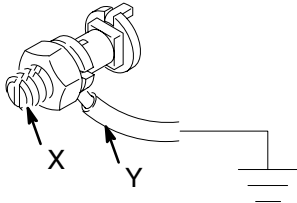

Fig. 1
Agitator and drum cover: Connect one end of the ground wire (Y) to the ground connector (X) on the rim of the drum cover. See Fig. 1. Connect the other end of the ground wire to a true earth ground. See the pump instruction manual (307986 for 230992, 307985 for model 230993, or 308793 for model 220575) for instructions on grounding the pump.